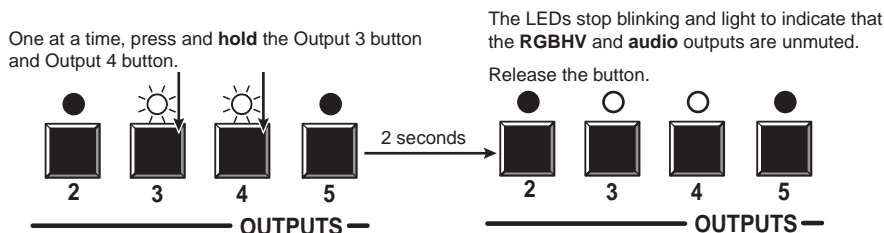

Figure 3-31 — Unmute the outputs
5. Press and **hold** the Output 3 button and the Output 4 button (figure 3-31) for approximately 2 seconds until the LEDs light steadily. The output 3 and output 4 video and audio signals are unmuted.